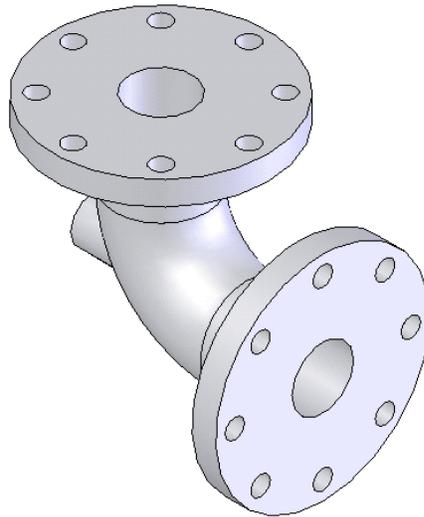

Figure 9-109 Final model of Tutorial 1
- Create the extrude features on both ends of the sweep feature, refer to Figure 9-109.
- Create the hole using the **Simple Hole PropertyManager**, refer to Figure 9-109.
- Create the pattern of the hole feature, refer to Figure 9-109.
- Create the counterbore hole using the cut revolve option, refer to Figure 9-109.
The final solid model of Tutorial 1 is shown in Figure 9-109. The model tree of the model is shown in Figure 9-110.